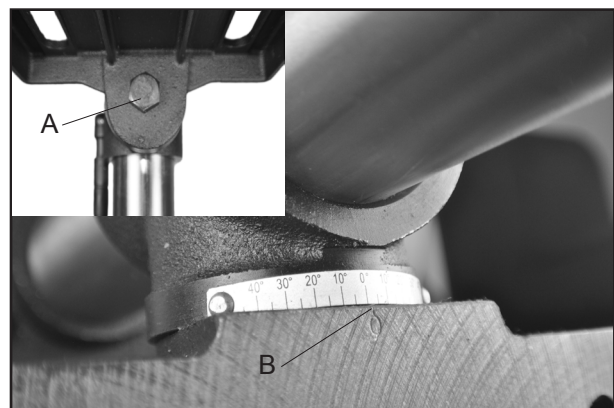

Fig.08
8. Table Tilt: The drill press table will tilt 0-45 degrees left and right. To tilt, loosen the nut located under the table (A-Fig.08). Align the "zero" mark on the table (B-Fig.08) to the desired degree marking on the scale. Tighten the nut under the table to retain the adjustment.